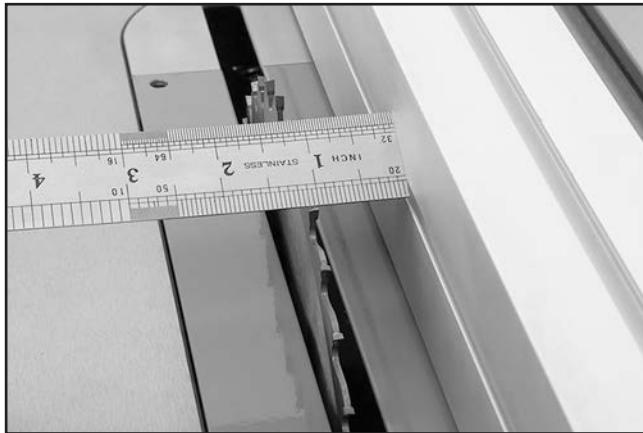

Figure 29. Example of checking fence scale calibration.
- 24.** Check fence scale calibration by moving fence to 1" mark on scale and measuring distance between blade tooth (see **Figure 29**) and fence.